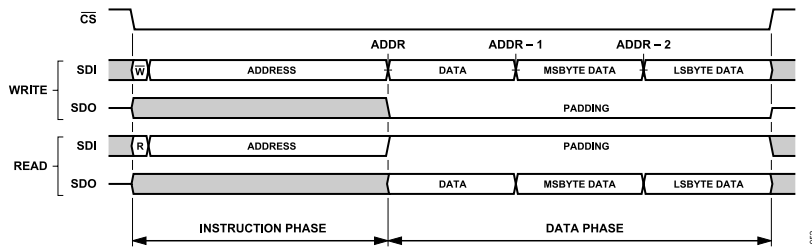
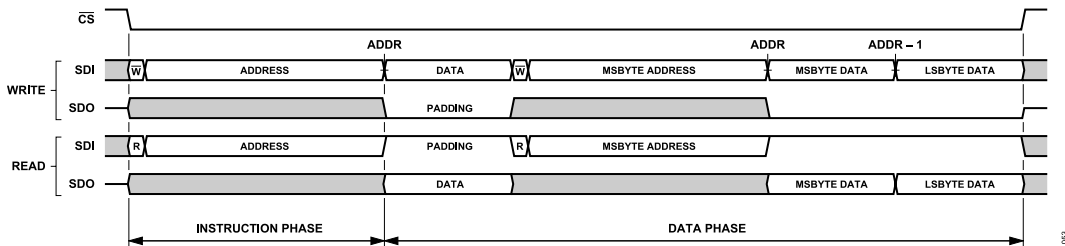
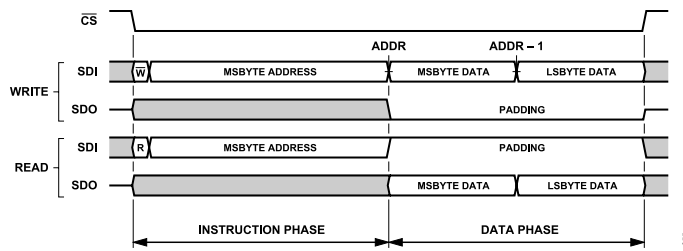
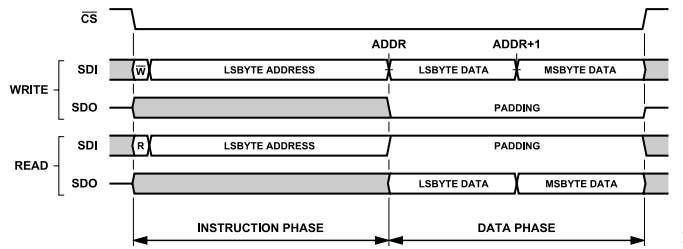

Figure 53. Interface Access Example, Default Interface Configuration, Streaming Mode (ADDR\_ASCENSION = 0)
Figure 54. Interface Access Example, Single Instruction Mode (SINGLE\_INST = 1), All Other Interface Options Default
Figure 56. Single Instruction Format, ADDR\_ASCENSION = 0 (Descend), STRICT\_REGISTER\_ACCESS = 1 (Enabled)
Figure 57. Single Instruction Format, ADDR\_ASCENSION = 1 (Increment), STRICT\_REGISTER\_ACCESS = 1 (Enabled)
Figure 53 illustrates the generic SPI frame formatting for a serial transaction using the default interface configuration. In this example, a portion of the configuration register space consisting of a byte-wide register and a multibyte register is accessed. The address for the byte-wide register resides in the most significant address (ADDRESS) and the most significant byte of the multibyte register resides in the least significant address of the register segment. By default, the ADDR\_ASCENSION property is set to descending, indicating that the address for the most significant register is passed to the host controller during the instruction phase. Depending on the selected operation, the instruction word
In single instruction mode (SINGLE\_INST = 1), the memory access controller requires an instruction phase to transmit for each register accessed in a given SPI frame as illustrated in Figure 54. This mode is useful when access to nonadjacent sections of the register space is required in a given SPI frame. Note that, the same access flexibility can be achieved in stream mode by initiating a new SPI frame for each unique register access.
The address ascension selection (ADDR\_ASCENSION) bit, as described in previous sections, determines how the internal interface address pointer is updated for each byte of data transmitted to the AD4080 in streaming mode (SINGLE\_INST = 0). If using single instruction mode (SINGLE\_INST = 1), each register is directly addressed through its own instruction phase as illustrated in Figure 54, and thus, the address pointer is not updated. Regardless of the setting for SINGLE\_INST, the ADDR\_ASCENSION bit directly impacts the formatting of the SPI frame in terms of selection of the instruction phase starting address and byte order of the data phase payload. This impact is described in greater detail in the Strict Access Selection and Multibyte Registers section as much of the data formatting is dependent on this interface configuration selection. The ADDR\_ASCENSION selection bit is located in the Interface Configuration A register (see the Interface Configuration A Register section, Address 0x00).
As indicated in Figure 56, the address counter, by default, automatically decrements (ADDR\_ASCENSION = 0) such that the most significant byte of the multibyte register is accessed first, followed
As an extension of this concept, when STRICT\_REGISTER\_ACCESS = 1, any SPI frame that accesses a multibyte register as the first entity in the data transfer must correctly set the starting address in the instruction word to correspond to the ADDR\_ASCENSION selection. In the case that the address counter automatically decrements (ADDR\_ASCENSION = 0), the starting address is assigned to the register address for the least significant byte of that multibyte register, and conversely, if configured to increment automatically, the starting address must be set to the register address for the most significant byte. As a result of the change to ADDR\_ASCENSION from automatic address decrement (0) to automatic increment (1), Figure 53 and Figure 54 will change as illustrated in Figure 56 and Figure 57 to accommodate the changes in data phase byte order and instruction phase multibyte register start address.